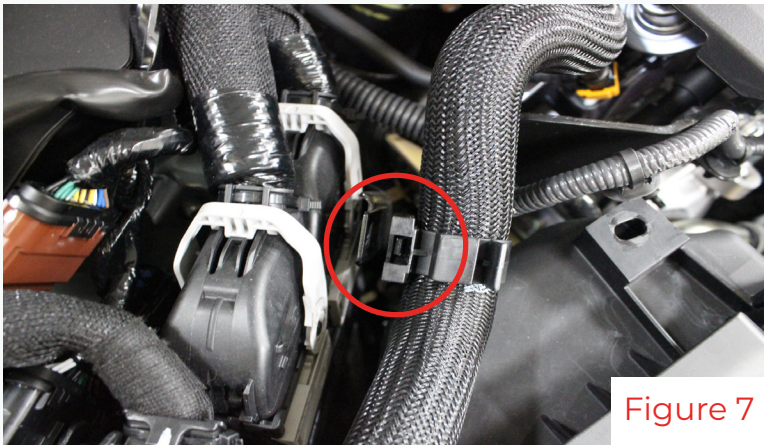
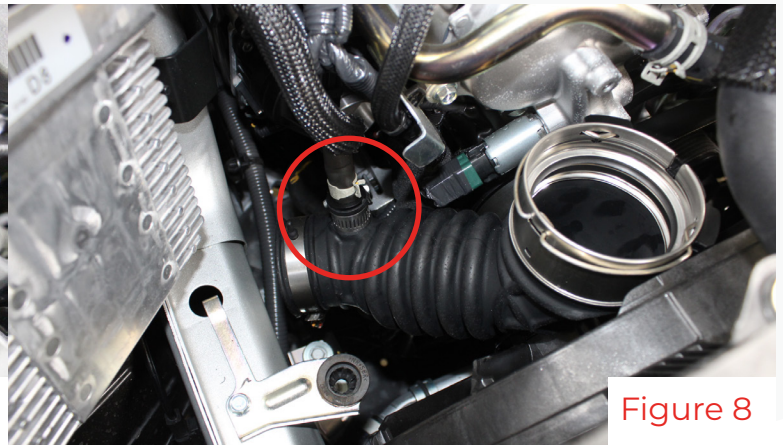

Figure 7
Figure 8
5. Repeat the same steps on the passenger side. The passenger side coupler has a PCV hose on it that will need to be disconnected before removal(fig 8). It may be helpful to undo the hose retainer by the ecu(fig 7).